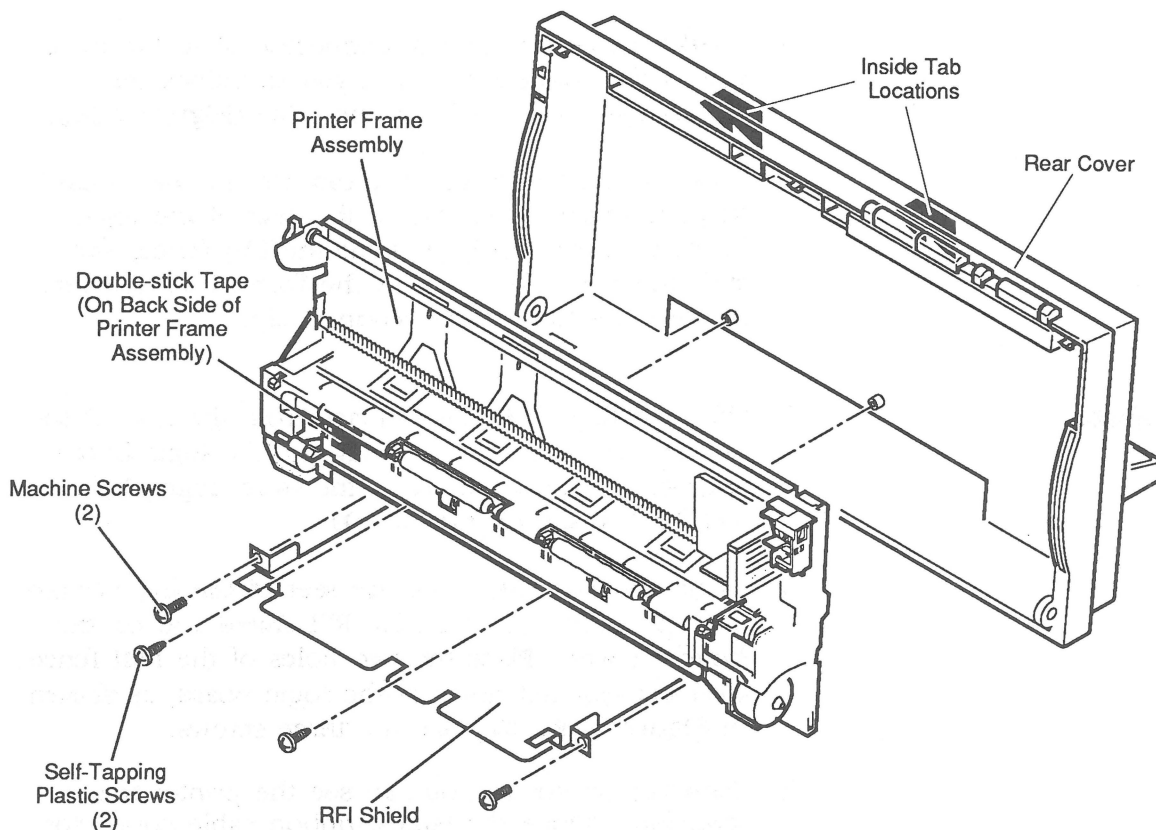

Figure 2-4 Printer Frame Assembly
2. Remove the four screws that secure the printer frame assembly to the rear cover (**Figure 2-4**).
4. Lift the printer frame assembly down and out to free it from the tabs on the upper inside of the rear cover (**Figure 2-4**).
Note: For safer shipping, ribbon cables on replacement printer frame assemblies are taped to the assembly. Remove the tape carefully. Pay close attention to tape over ribbon cable ends. This tape can peel the mylar backing and make the ribbon cable difficult to insert into the connector. After removing tape from the cartridge ribbon cable, press the cable onto the double-stick tape in the bottom-left corner of the assembly (**Figure 2-4**).
1. Slide the printer frame assembly up into the rear cover so that the metal top of the frame fits behind the plastic tabs on the top inside of the cover (**Figure 2-4**). Make certain that the connector ends of the operations panel cable and paper sensor cable are visible and hanging freely below the assembly.
2. Slide the RFI shield into place from the front of the printer (**Figure 2-4**). Route the large ribbon cable under the RFI shield and out the front.
3. Be sure the printer frame assembly sits securely in place and that the screw holes on the printer frame assembly align with the two screw holes on the RFI shield and the two screw holes on the rear cover. Replace the four screws (**Figure 2-4**).